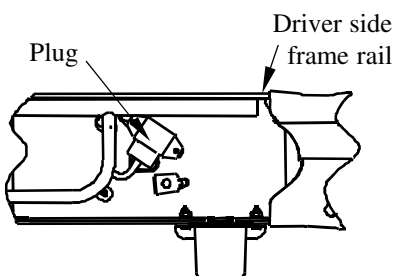
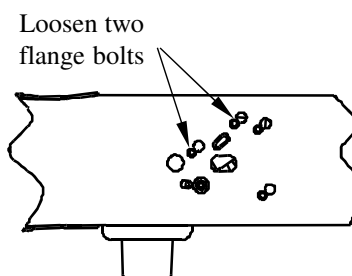

Figure 2a
Figure 2b
2. **2007 New Body Style and later trucks with OE Trailer Brake Control:** Relocate the electrical plug that is located on the inside of the driver's side frame over the rear wheel (Figure 2a). The plug may be removed from the frame by loosening the two bolts on the outside of the frame and pushing the bolt heads through the key hole slots, as shown in Figure 2b. Attach the plug to the angle bracket supplied with the mounting kit. The bracket will be attached to the inside of the frame with a 5/8" bolt at a later step.